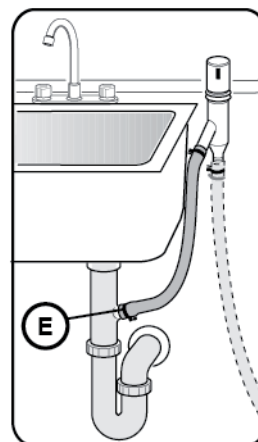

Figure 12
3. To the under sink dishwasher drain connection through an air gap, as shown in **Figure 12**.